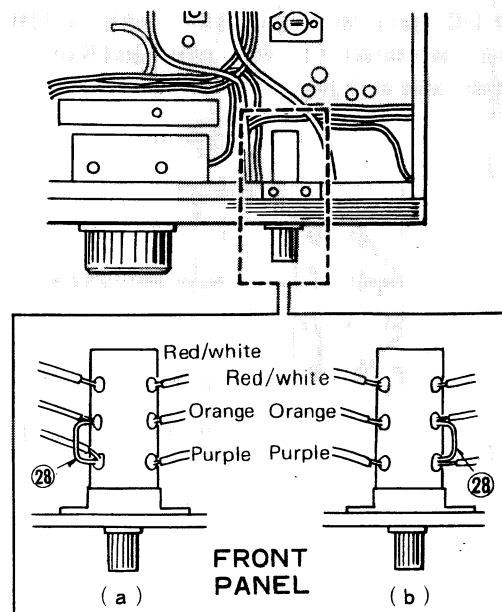

Fig 4 WWV Switch
28. Solder a jumper on the WWV/JJY switch as shown in fig. 4. Do not jumper the orange and purple wire.